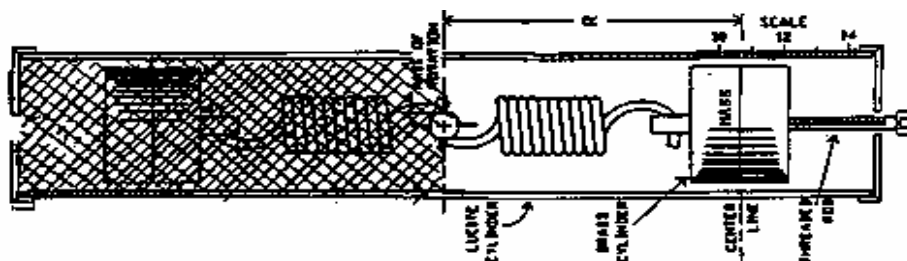

Figure 1: Circular motion apparatus
While today's experiment concern's itself with Hooke's law, we will be using the same experimental apparatus next week to measure the centripetal force. The experimental apparatus, shown in Fig. 1, consists of two sets of brass cylinders and springs encased in a Lucite tube. Half of the tube is painted black so that you can observe only one set of the cylinder-spring system. A shaft is mounted at the midpoint of the Lucite tube. One end of a spring is attached to a brass cylinder and the other end is connected to the shaft. The radial distance R between the axis of rotation and the center of the brass cylinder can be determined from the scale (in centimeters) on the Lucite cylinder. (If only one set of the cylinder-spring system is used, then an unbalance occurs when the assembly is rotated. This unbalance, if allowed to occur, will result in the destruction of the apparatus.) This week we will be using the scale on the Lucite tube to measure the extension of the spring as a function of the weight of a series of masses hung on the spring.
1. Circular motion apparatus consisting of a motor and a shaft, and the hollow Lucite tube with spring and brass cylinder shown in Fig. 1.
Measure spring elongation with respect to the rotational axis. In other words, changes in the length of the spring should be measured as the distance R between the axis of rotation and the center line on the brass cylinder. This distance is denoted by R in Fig. 1.